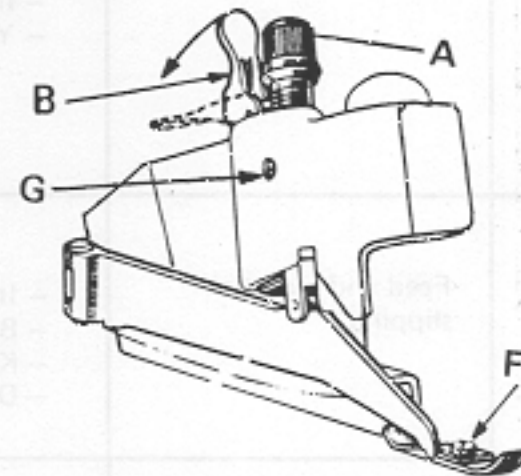

fig. 19
4. Press lever B right down (fig. 19).
c) Positioning and adjusting presserfoot pressure (fig. 19).